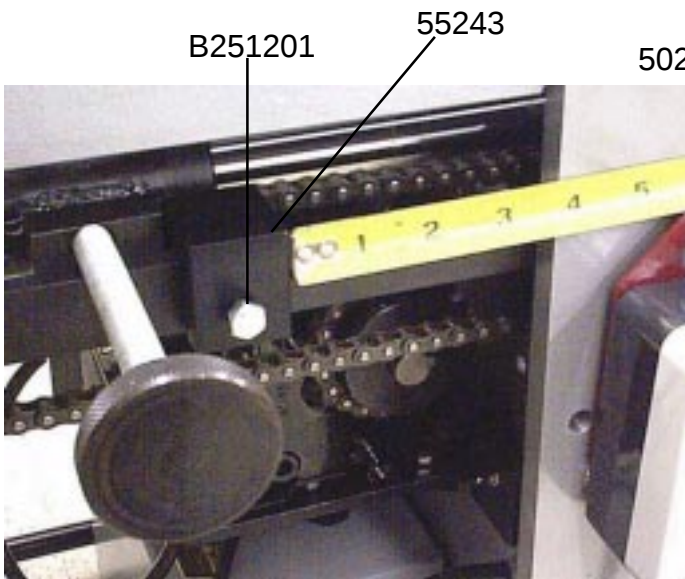

Fig. 97
5. Install the 55243 Bracket to the switch bar using the B251201 screw. It must be on the right side of the switch bar as you face the machine. It should be 3-5/8" from the frame. See Fig. 97